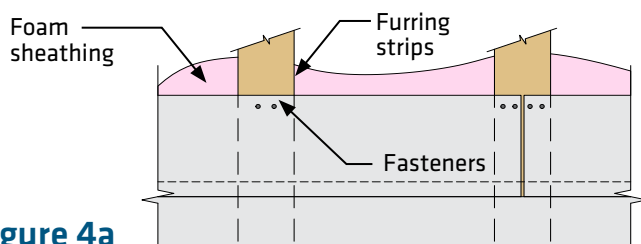

Figure 4a
- Blind nail two fasteners per furring strip (four nails at butt joints) every 16" o.c. (Figure 4a)